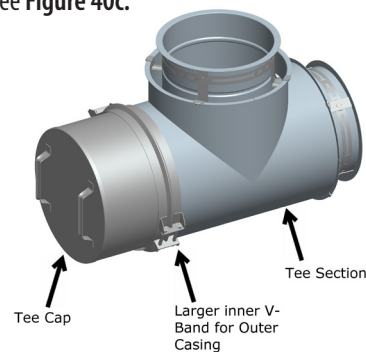

Figure 40c: Step 3-4 for installation of the DSLD TC
Step 4 - Secure with the bigger V-Band (BSI) by tightening the retaining screw. See **Figure 40c**.